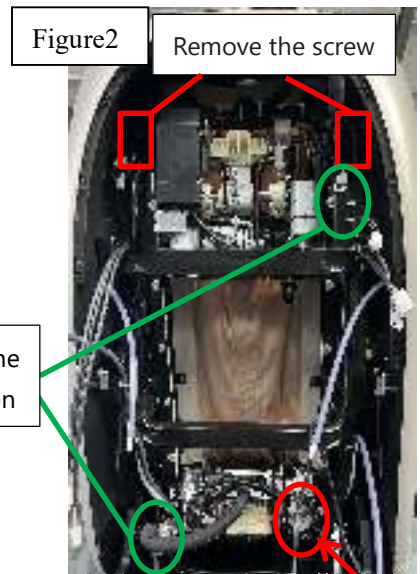

Figure2
1.2 As shown in Figure 2, remove the 6 4\*10 Phillips S-type cap head self-tapping screws with a Phillips screwdriver.